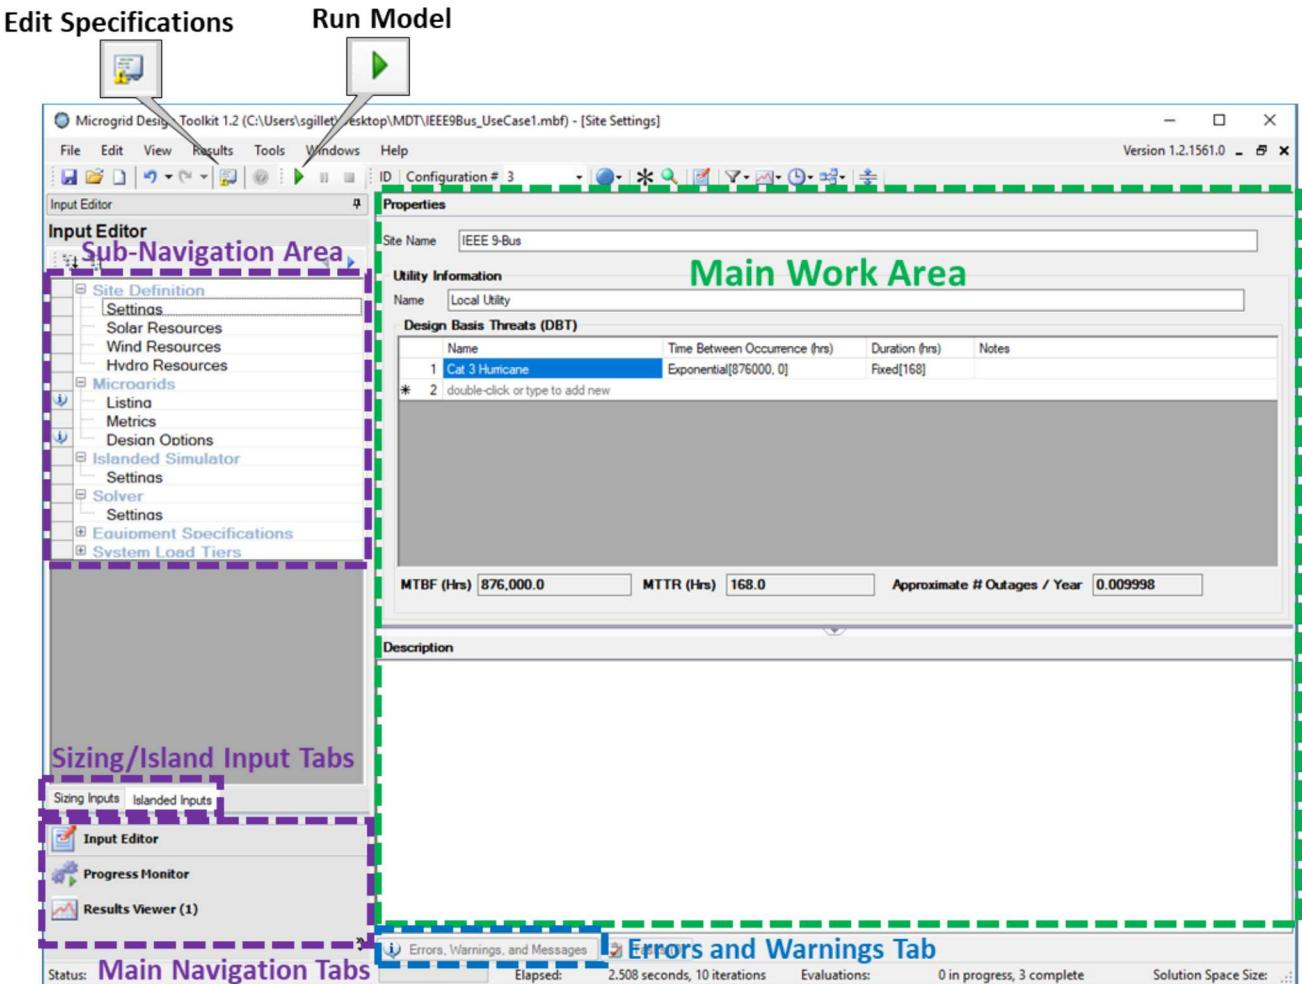

Figure 73. MDT main screen overview.
There are three main areas of MDT. They are accessed via tabs at the bottom left corner of the screen (*Main navigation tabs* in Figure 73).
Pages within each section are accessed via links in the upper left corner of the screen (*Sub-navigation area* in Figure 73). When the Input tab (under *Main navigation tabs* in Figure 73) is selected, the user can choose whether to display Sizing Inputs or Islanded Inputs (using the tabs just above the main navigation tabs) depending on the analysis being performed. Islanded Inputs is the default mode.
- The **page navigation** area is located on the left side of the page (highlighted in purple in Figure 73).
- The **main work area** (highlighted in green in Figure 73) is the largest panel on the screen. This is where elements are added and modified.
Errors  and **warnings**  for all pages are accessible through the “Errors, Warnings, and Messages” tab at the bottom of the screen (highlighted in blue in Figure 73). Errors and warnings are also displayed on the input form next to the elements with problems.